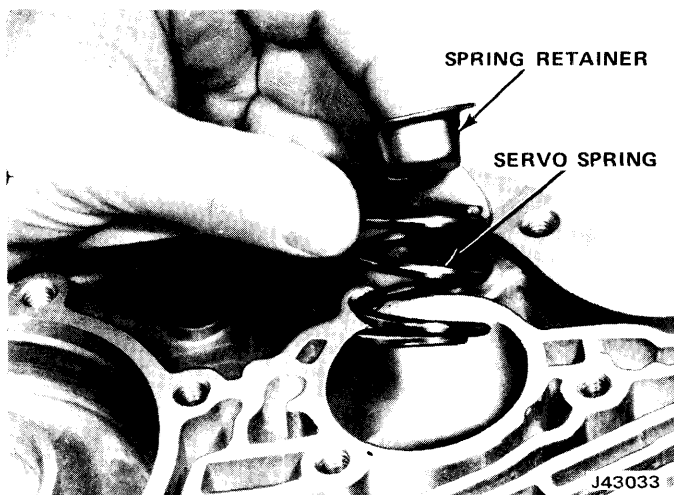

Fig. 7-137 Installing Servo Spring and Retainer
(3) Install front servo spring and spring retainer in servo bore (fig. 7-137).